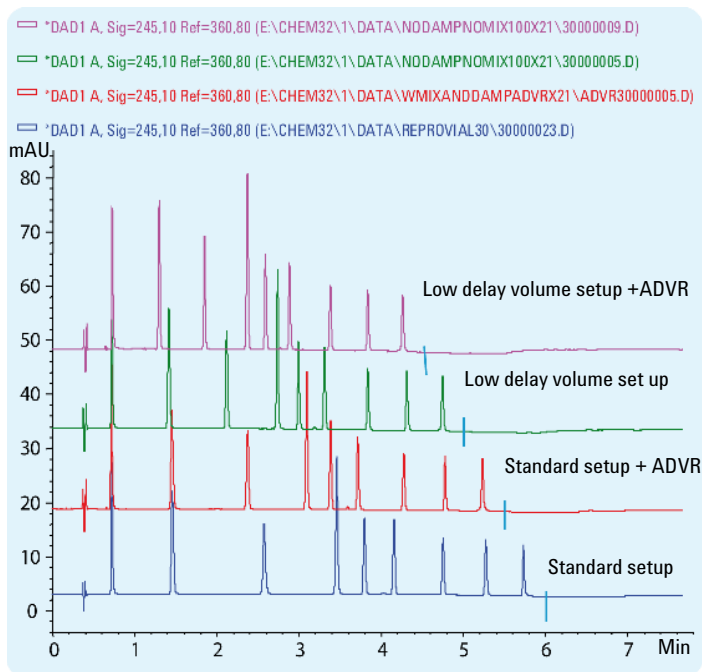

Figure 17 Reduction of the delay volume
The Agilent 1260 Infinity High Performance Autosampler offers the possibility of performing overlapped injections (OI) and/or automatic delay volume reduction (ADVR). This means that the injection valve is switched out of the flow path after the sample has reached the top of the column. This reduces the delay volume significantly, see Figure 17 on page 49.
The lower the flow rate, the greater the negative impact that can be expected from delay volume. In Figure 17 on page 49, a 2.1 mm inner diameter column was used at a flow rate of 0.6 mL/min. The delay volume is reduced step by step from the lowest trace to the top trace. The influence on total run time, and the impact, especially on peak width and the heights of the first peaks, is obvious.